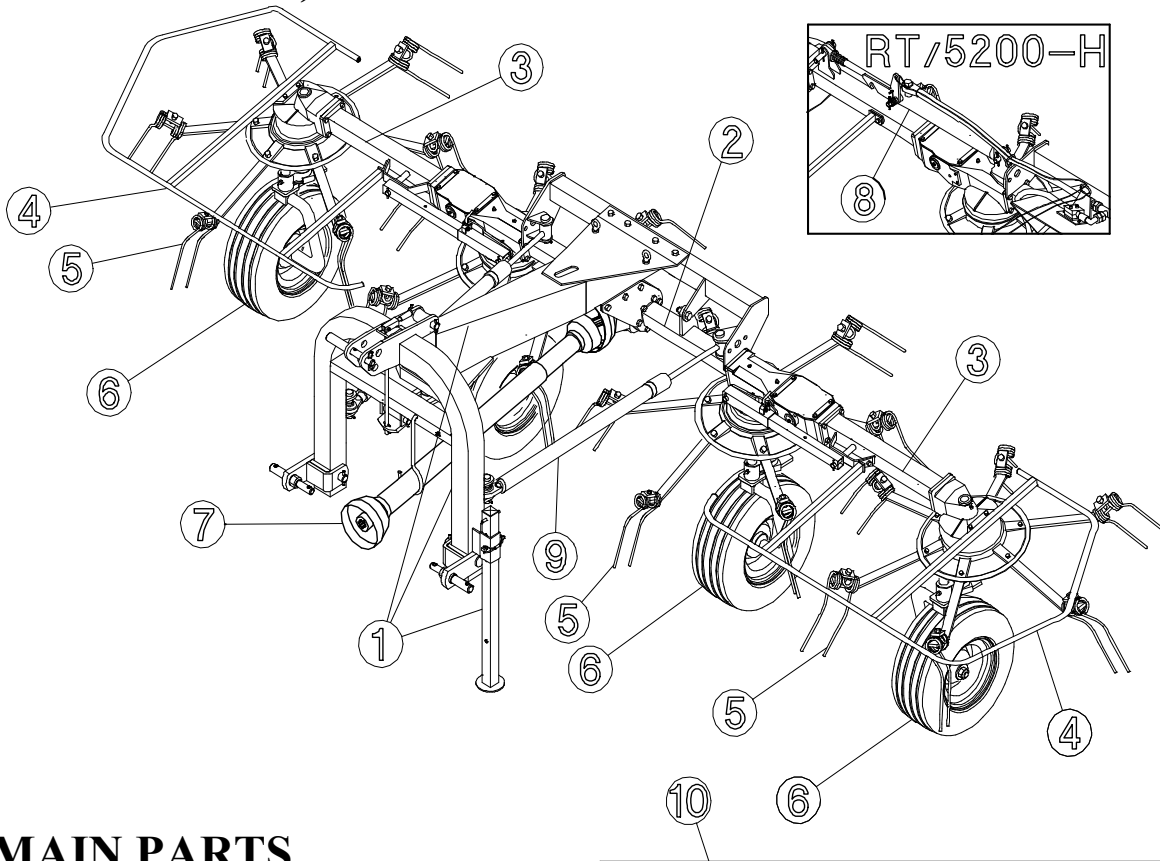

**FIG.2**
- 36. Always disengage the power take-off when the Cardan (P.T.O.) shaft is at too wide an angle (it should never be more than 35° - Fig.2) and when it is not in use.
NOTE: During both transport and use, avoid conditions where the cardan shaft is extended to the maximum. In all working conditions, the telescopic tubes must overlap by at least 1/3 of their length (fig. 1). Conversely, when the cardan shaft is contracted to the maximum, there should still be a gap of approximately 50mm-2" (Fig. 2). Take particular care when connecting the two cardan shaft end forks and make sure that they are fully secured. This is achieved by inserting the safety pins and bolts 1 into the special slots 2 (fig. 3) on the power takeoff shafts on both the tractor and machine ends. A loose shaft could come apart and cause considerable mechanical damage and serious injury to person.